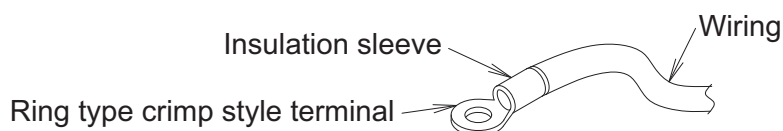

Fig. 37
- For connection to the terminal block for indoor-outdoor transmission wiring, use ring type crimp style terminals with insulation sleeve or treat the wiring with insulation. (Refer to Fig. 37)